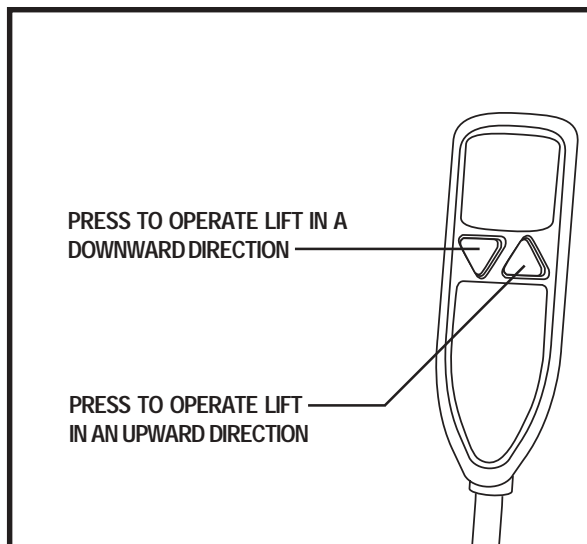
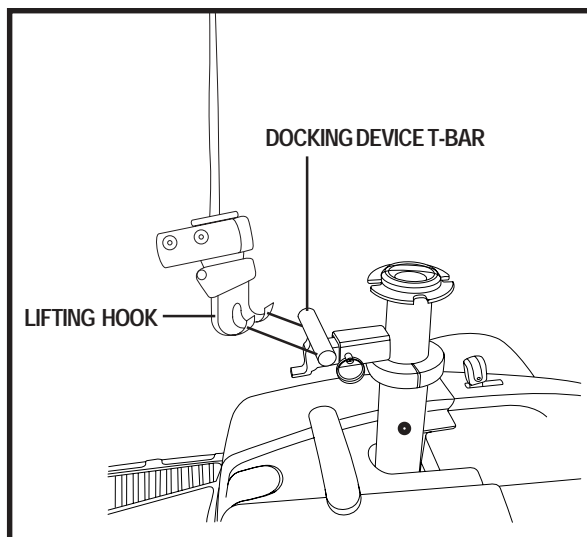

Figure 13. Hand Control
Figure 14. Lifting Hook Placement
4. Operate the lift (via the hand control **see figure 13**) in the downward direction until the lifting hook reaches the T-bar. The lift strap should drop straight down to the T-bar. **See figure 14.**
5. Place the lifting hook onto the docking device T-bar. **See figure 14.**